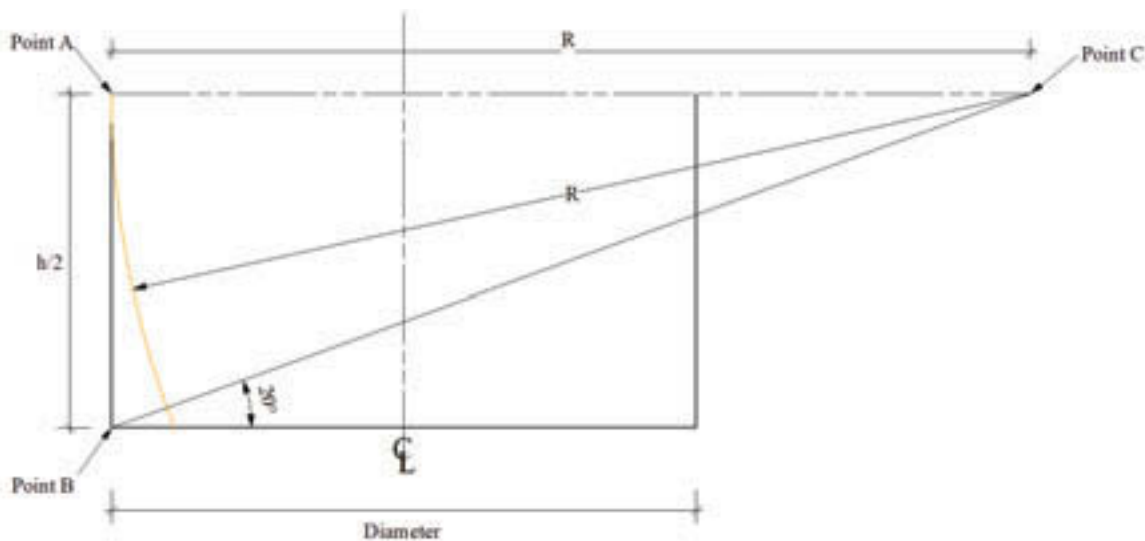

Fig. 80: Tank shape, bottom — Step 3
6. Line AC is the radius of the curve at the bottom of the tank. To find the shape, draw the arc from Point A to Point B (figure 80). The 20-degree limit is to assure that the mortar will not fall off while it is being applied by trowel on this section of the form.